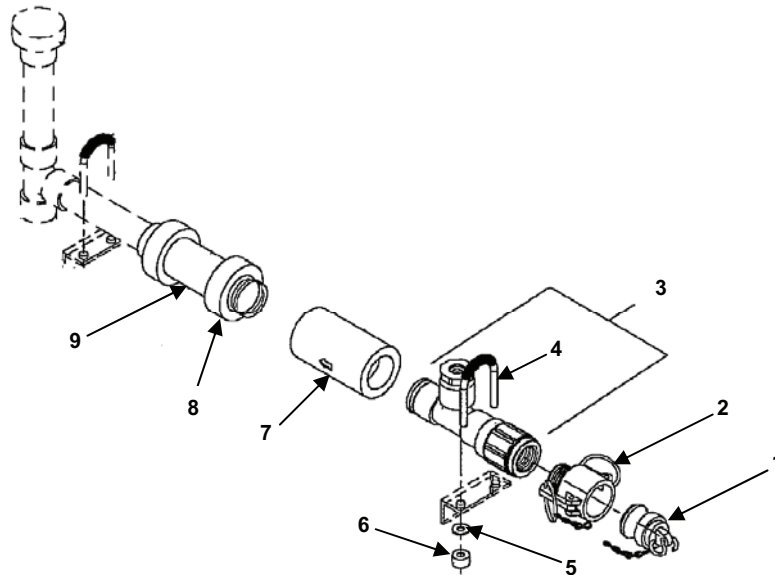

Figure 4. Flow Controller (8 GPM).
1. Remove dust plug (Figure 4, item 1) and female camlock (Figure 4, item 2) from the tee fitting (Figure 4, item 3).